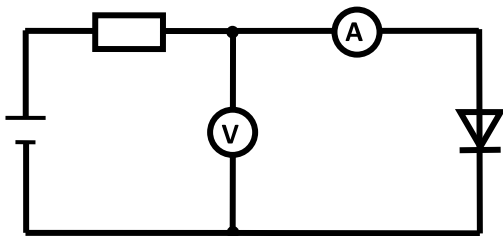

Fig. 4. Circuit for the measurement of the characteristic current voltage curve for the diode (in direction of flow)
- Set up the circuit as shown in Fig. 4. Measure the characteristic current voltage curve for the diode along and opposite to the direction of flow. Make sure to record sufficient data points in regions where the shape of the characteristic curve changes strongly.
In the circuit shown in Fig. 4 the ammeter displays directly the amperage of the current that flows through the diode. On the other hand, the voltmeter shows the value of the voltage drop over the diode and the ammeter. Therefore the value of the displayed voltage drop is approximately the value of the voltage drop across the diode only under certain conditions.